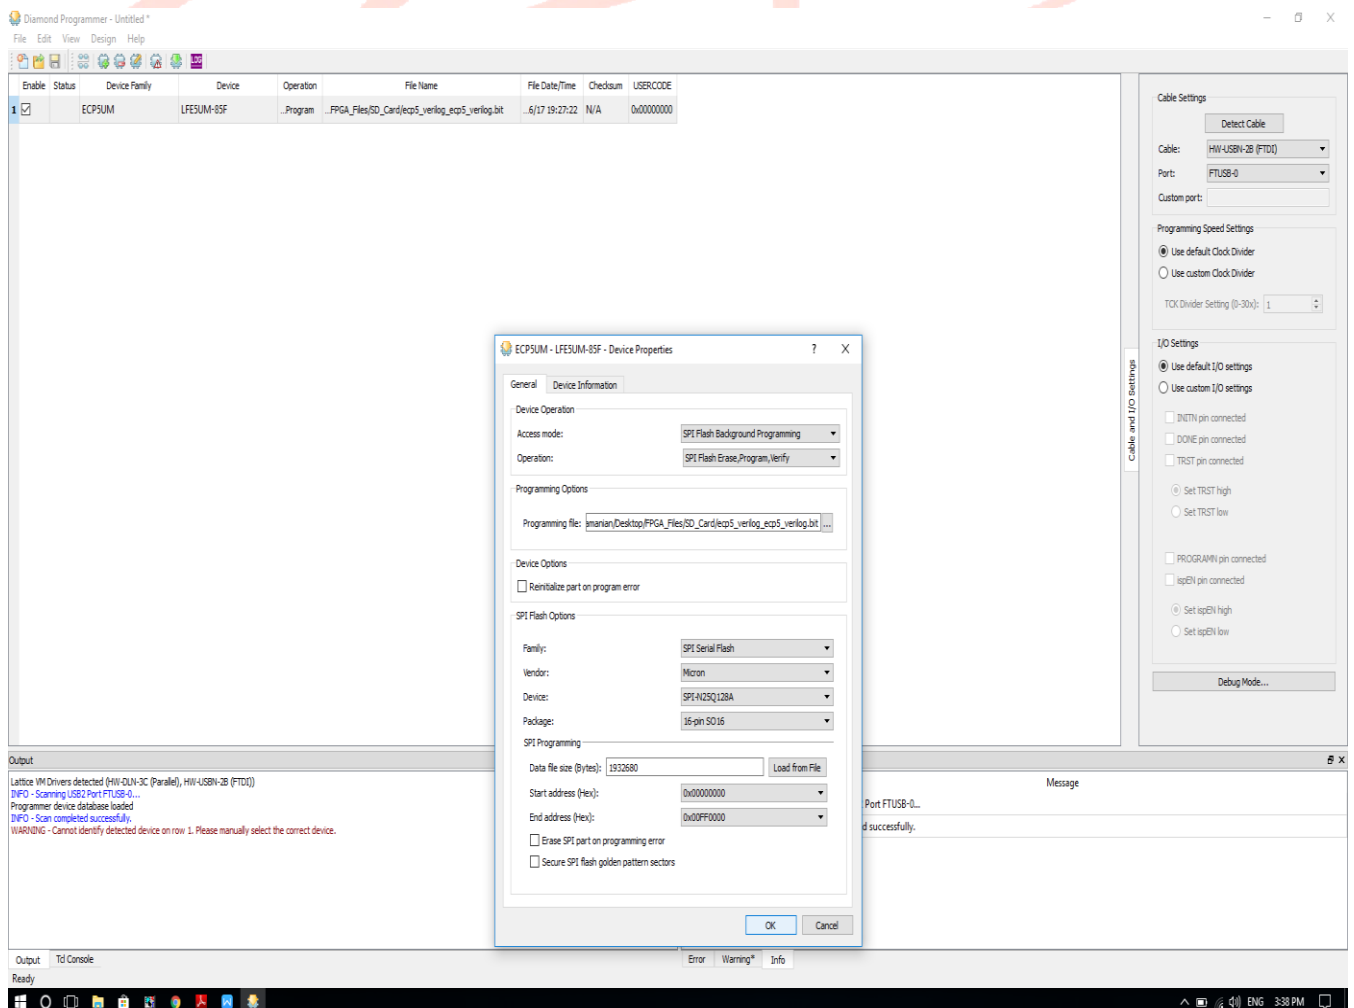

Figure 9: FPGA SPI Flash Programming
6. Click the operation tab to open the window, as shown in Figure 9,